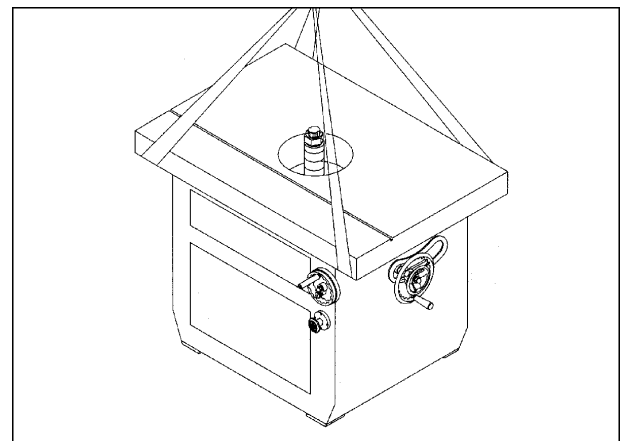
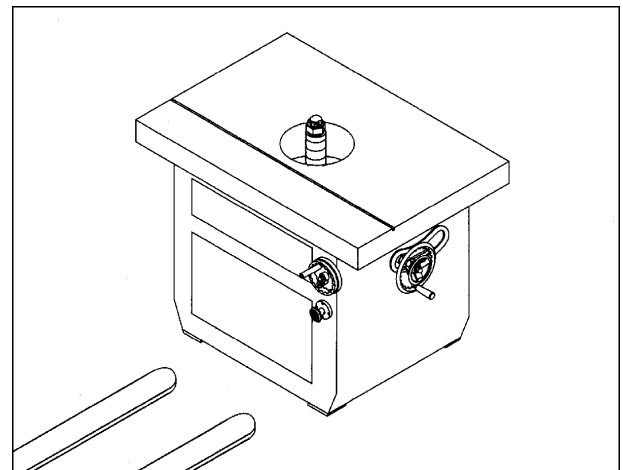

FIGURE 6
FIGURE 7
3. The shaper can be lifted by a crane with hoist (Figure 6), or by a forklift (Figure 7), either of which should be capable of lifting one ton. Remove the skid from under the shaper.